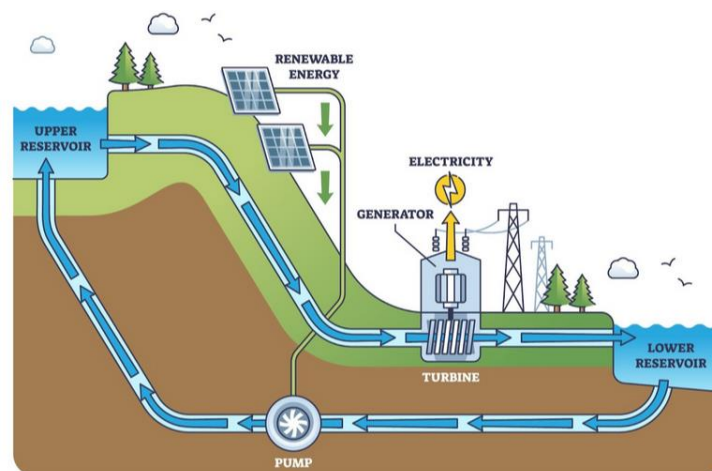

Figure 1. Pumped Hydro Storage
- Stores energy by pumping water (Figure 1.) from a lower reservoir to a higher reservoir during periods of low energy demand (charging).